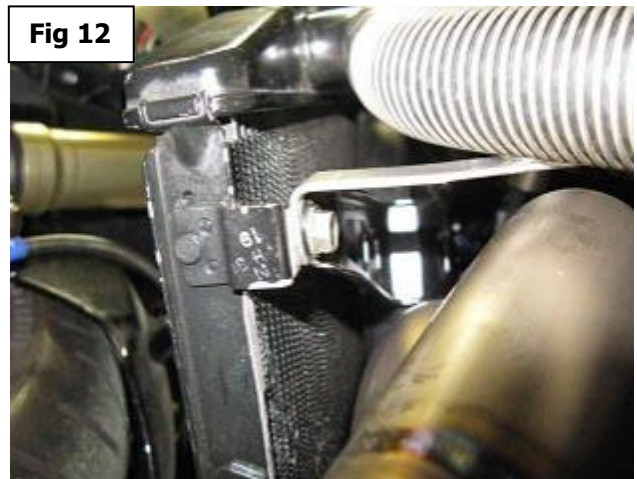

Fig 12
STEP 12: INSTALL THE ZIP TIE: The oil hose is very close to the #2 head pipe, use the zip-tie to keep the oil hose in place and away from #2 head pipe. Do not tighten the zip-tie too much (Fig 12).